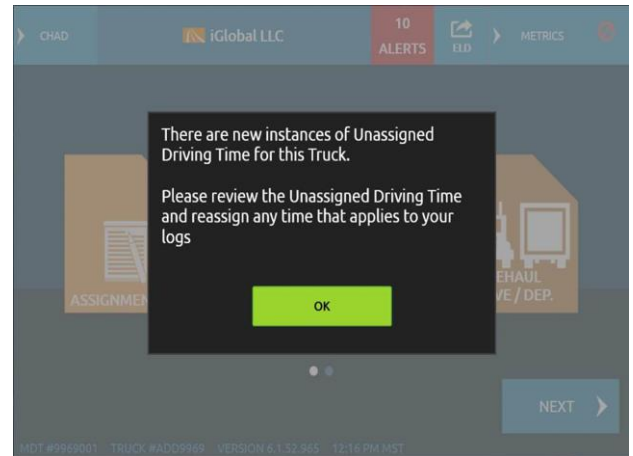

Figure 4.9
- After pressing the Certify button the driver will have to Agree that they are certifying their logs or advise that they are not ready at this time (Fig 4.9)
- When there are instances of unassigned driving time on the ELD, the driver will be alerted with a popup during the login process. (Fig 4.9)